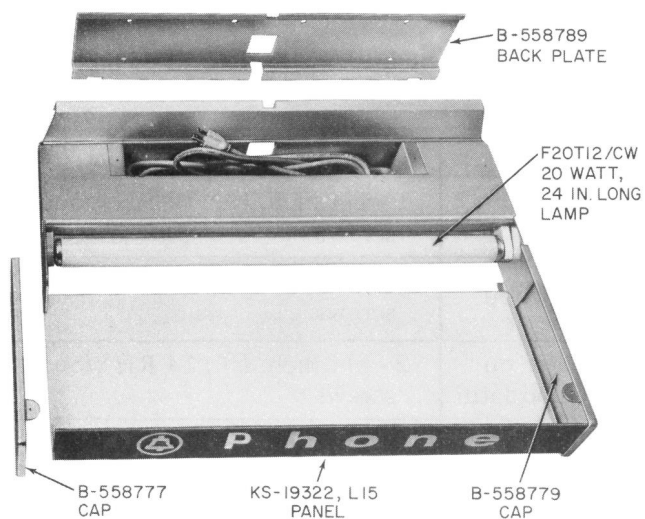
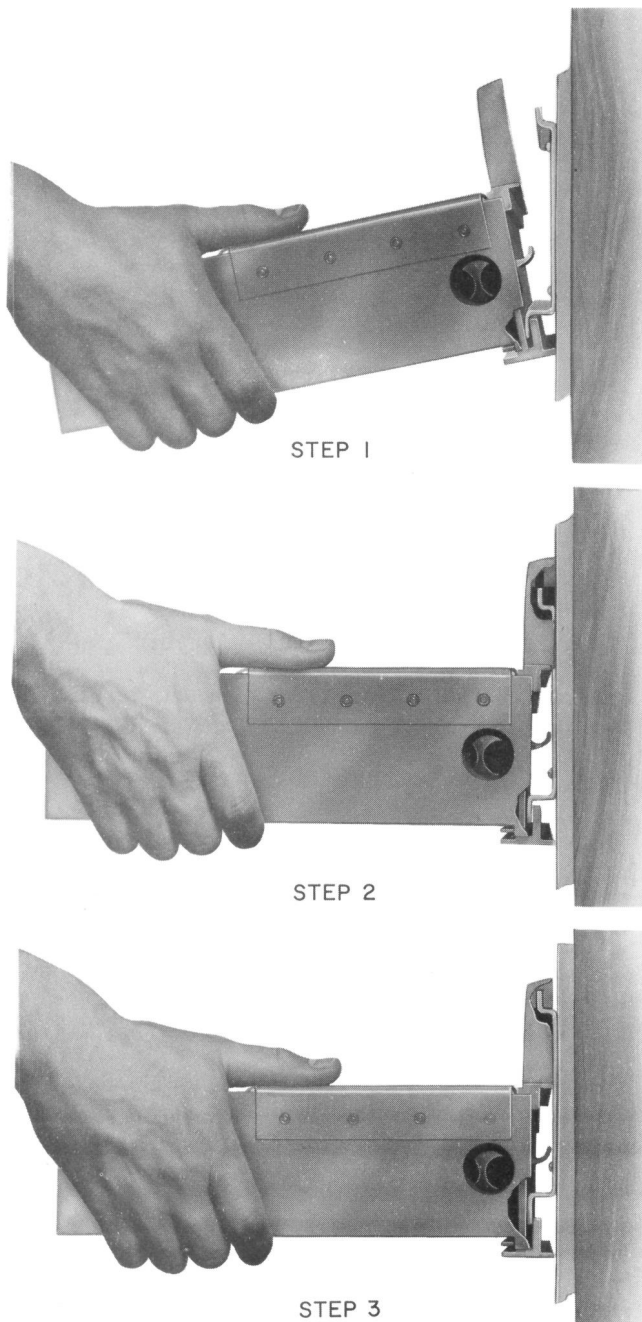

Fig. 20—Assembly of KS-19322 Sign
Fig. 21—Installation of KS-19322 Sign
3.09 These signs are intended for use indoors over a coin telephone shelf, directory racks, and tables (Fig. 20).
- (a) Remove the power cord through the hole in the rear wall of the cord storage compartment (Fig. 20).
- (c) Engage lower slot of sign with lower flange of backplate (Fig. 21, Step 1).
- (d) Raise sign assembly as far as possible and tilt top of sign toward wall (Fig. 21, Step 2).
- (e) Allow sign to slide down, engaging upper slot and flange (Fig. 21, Step 3).
- (b) Place end caps on sign panel (Fig. 20).
Note: The List 2 lens assembly (Fig. 20) must be removed from the fixture assembly (Fig. 21) before installation.
- (1) Remove four cap nuts which secure lens to base.
- (2) Remove four 1/4-20 by 5/8-inch Phillips RHM screws from top edge of mast.
- (3) Install fixture assembly to mast using the four 1/4-20 by 5/8-inch screws (Fig. 21).
- (4) Have local electrician connect the fixture to junction box below KS-19426 housing with No. 12 AWG wire. Connections should conform to connections of the housing fluorescent lamp, ie; if housing lamp is controlled by a light control unit, the sign lamp should be controlled by the same unit.
- (5) Install lamp in fixture.